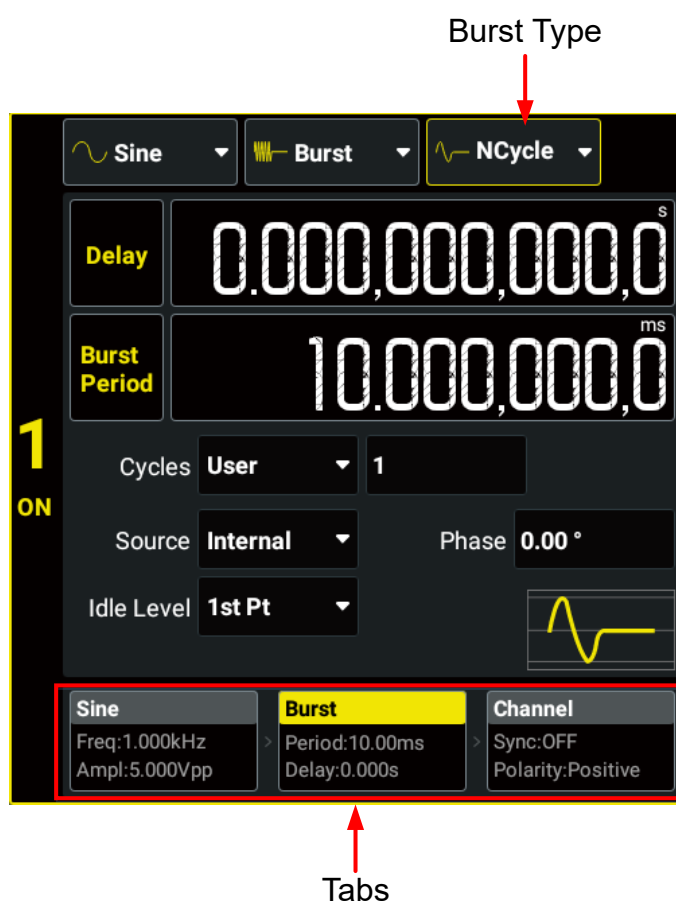

Figure 8.1 Burst Setting Interface
DG800 Pro can output two types of bursts: N-Cycle Burst (default) and Gated Burst. In the Burst Setting Interface (Figure 8.1), click or tap the "Burst Type" drop-down button to select "NCycle" or "Gated". The table below illustrates the trigger sources and waveform parameters available for the two burst types.
- **Manual:** Manual trigger is only available for N-Cycle Burst mode. When manual trigger is selected, click or tap the manual trigger key  in *Figure 8.1* interface or press the front-panel  key to initiate a burst output immediately. If the output of the corresponding channel is not enabled, the trigger will be ignored.